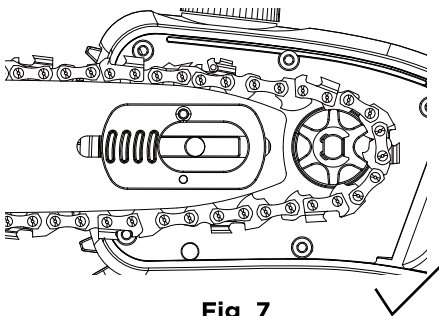
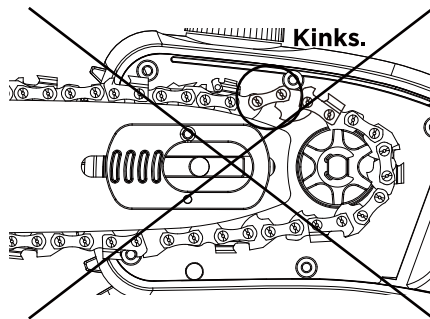

Fig. 7
Fig. 8
4. Assure all parts are seated properly and hold the chain and guide bar in a level position. Make sure the drive links are fully seated in the drive sprocket (Fig. 7), avoiding a kink as shown in (Fig. 8) . If a kink occurs, pick up on the chain at the guide bar just ahead of the kink and then pull the kink out.